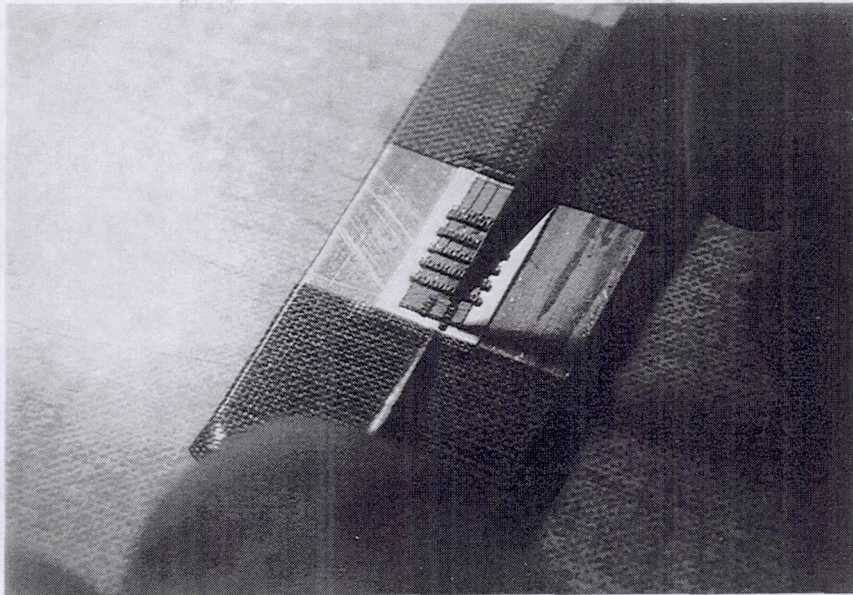

FIGURE 8. Photo of .030" wide tape bars placed over platinum crossover strand.
- Figure 8. Photo of .030" wide tape bars placed over platinum crossover strand.